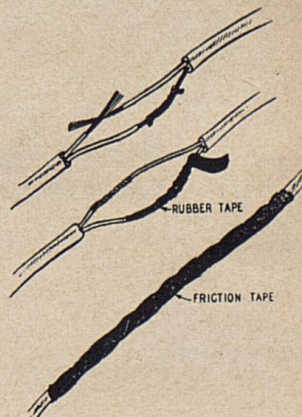

Fig. 17
2. By cutting out the frayed or broken parts of the cord, splicing and soldering. Tape each wire with rubber tape and then both wires with friction tape. Fig. 17.